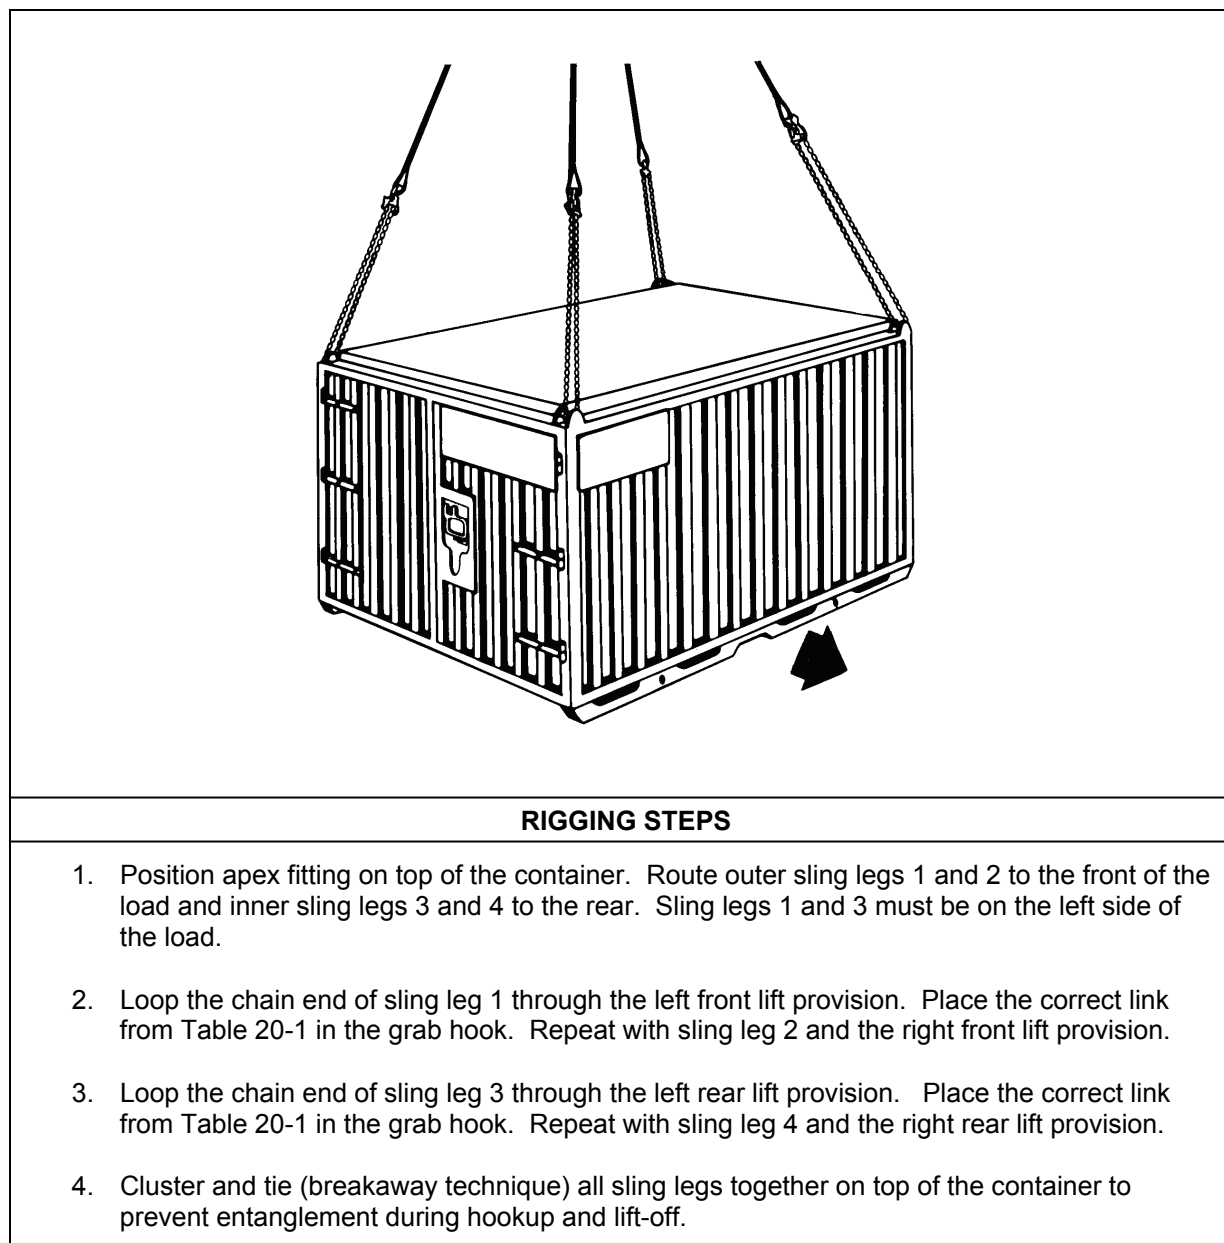

Figure 20-1. One CONEX Container
- **Rigging.** Rig the load according to the steps in Figure 20-1.